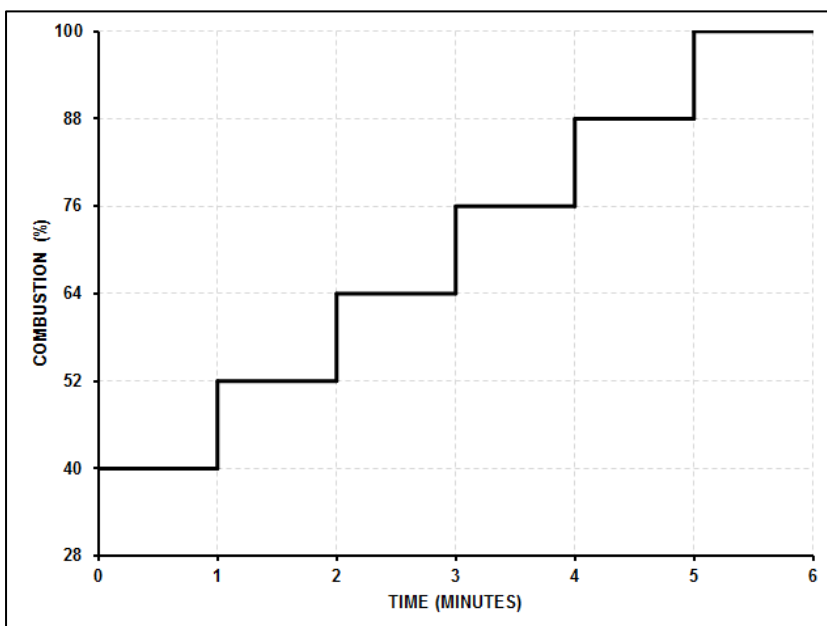

Figure 51 – Step Modulation
When the Step Modulation on/off parameter is active, step modulation limits the boiler firing rate when a heating cycle starts. There are six (6) limiting steps used to limit temperature overshoot and short cycles. See Figure 51. This feature can be turned on or off depending on the installation. This parameter can be changed by the installer by accessing parameter 37:CM or 38:DM. The control range of this parameter is OFF or ON. The default value is OFF. The percentage of each step can be decreased as low as 50% by decreasing the overall capacity of the boiler in the Installer Menu changing parameters 18:cb or 19:db.